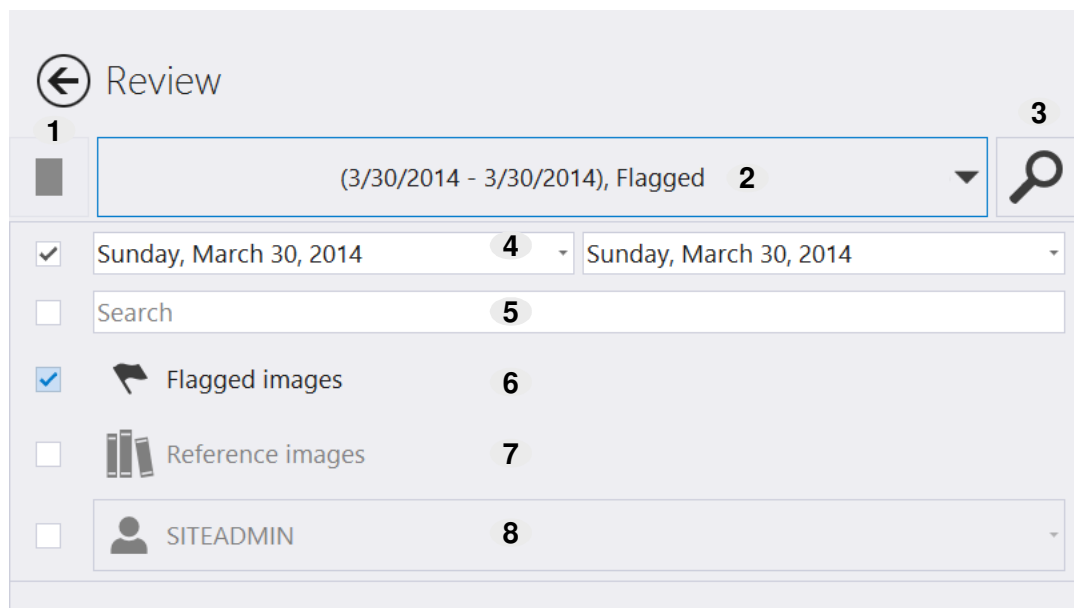

Figure 9-2: Search criteria list layout. The buttons are described in Table 9-1.
In the Search mode (Review) screen, open the selection criteria to enter or choose criteria to find images and groups of scanned images. It is shown in Figure 9-2.
2. At the top center of the Content pane, tap the Selection Criteria button. It appears as a wide box (see Figure 9-2), typically displaying the criteria used in the previous search. The search criteria list opens (Figure 9-2), used to enter terms for searching.
The search criteria subscreen appears in Figure 9-2. It allows the user to choose or enter search criteria to find previously scanned groups of images, and to select groups to display in the View screen, where they can be seen at full resolution and enhanced to aid in distinguishing details. This format is used in all functions that search for images.